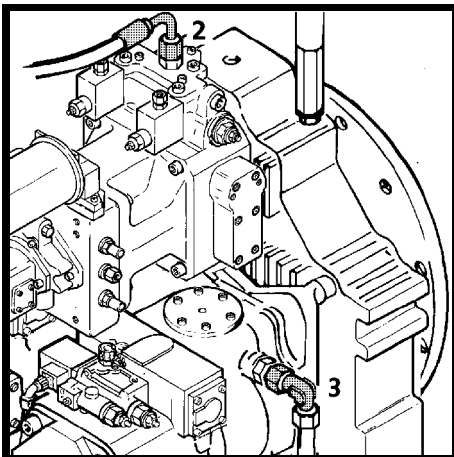

Fig. 35
To bleed the swing pump, loosen the union at the leak oil hose (Fig. 35, pos. 2) and let the air escape. As soon as hydraulic oil flows out of the hose, reconnect the leak oil hose.